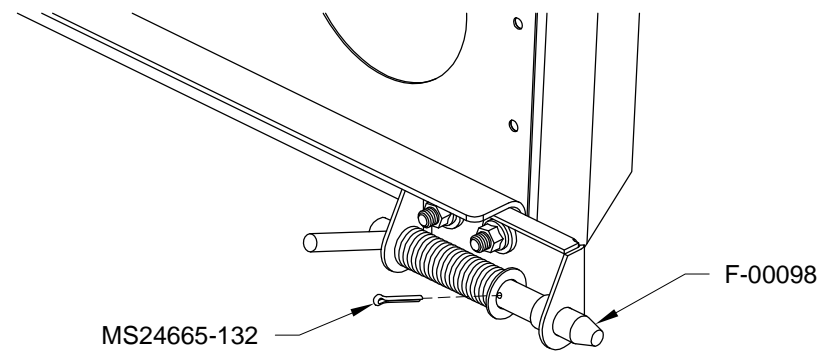

FIGURE 2: SECURING THE F-00098
Step 2: Compress the spring with the washer, then secure the F-00098 with the cotter pin called out in Figure 2.